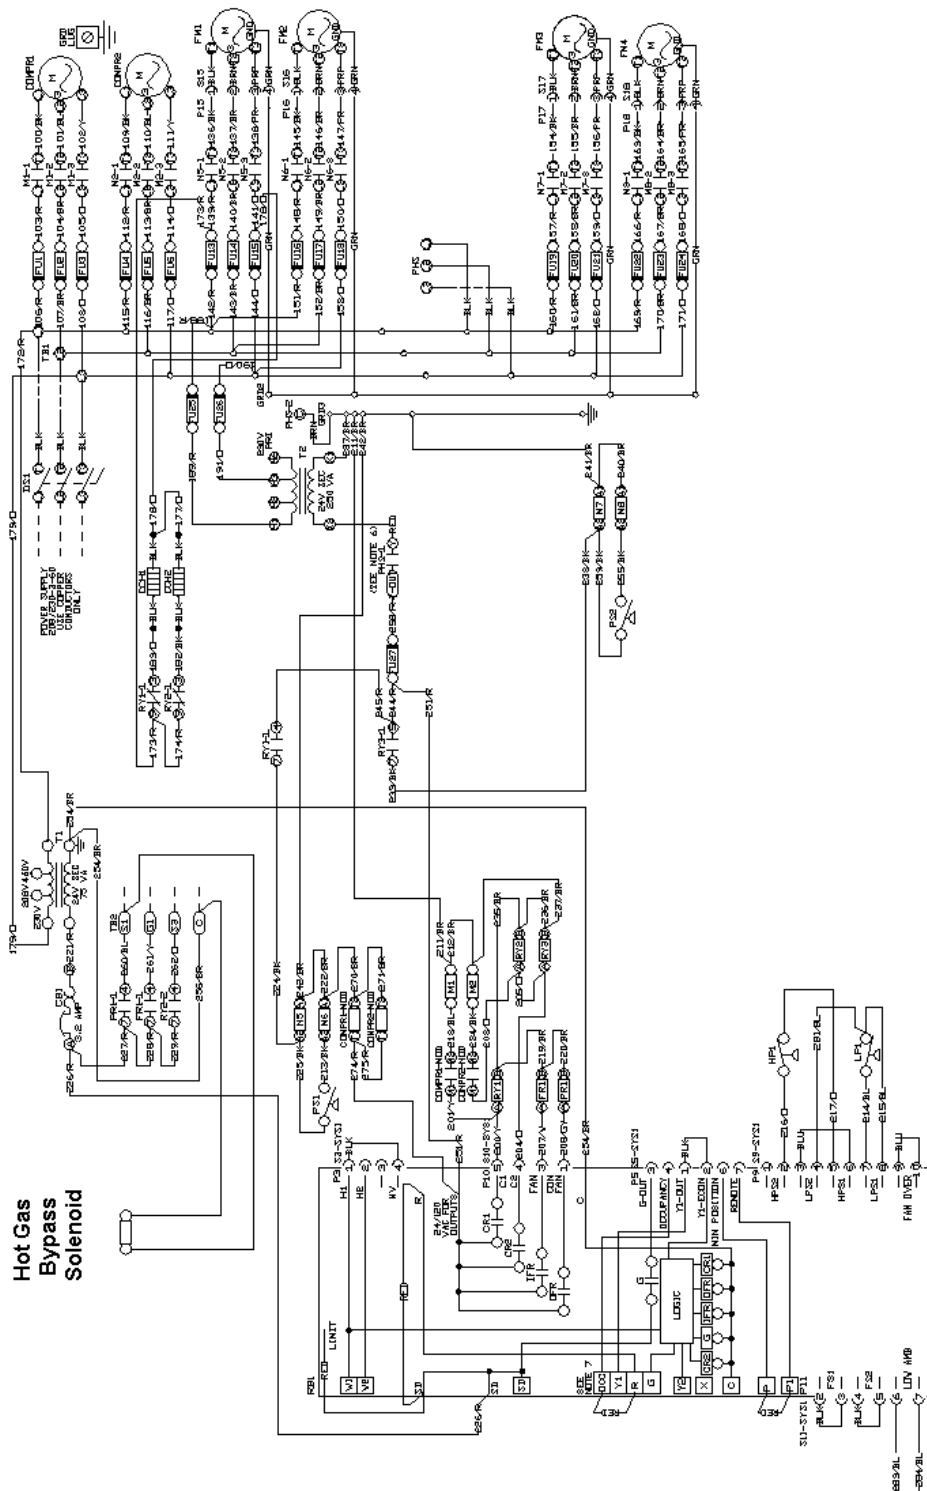

FIGURE 4 - TYPICAL WIRING DIAGRAM
16. Connect to terminals (S1) or (S3) and (C) on terminal block (TB2), located in the condensing unit control box. See Wiring Diagrams Figure 4.